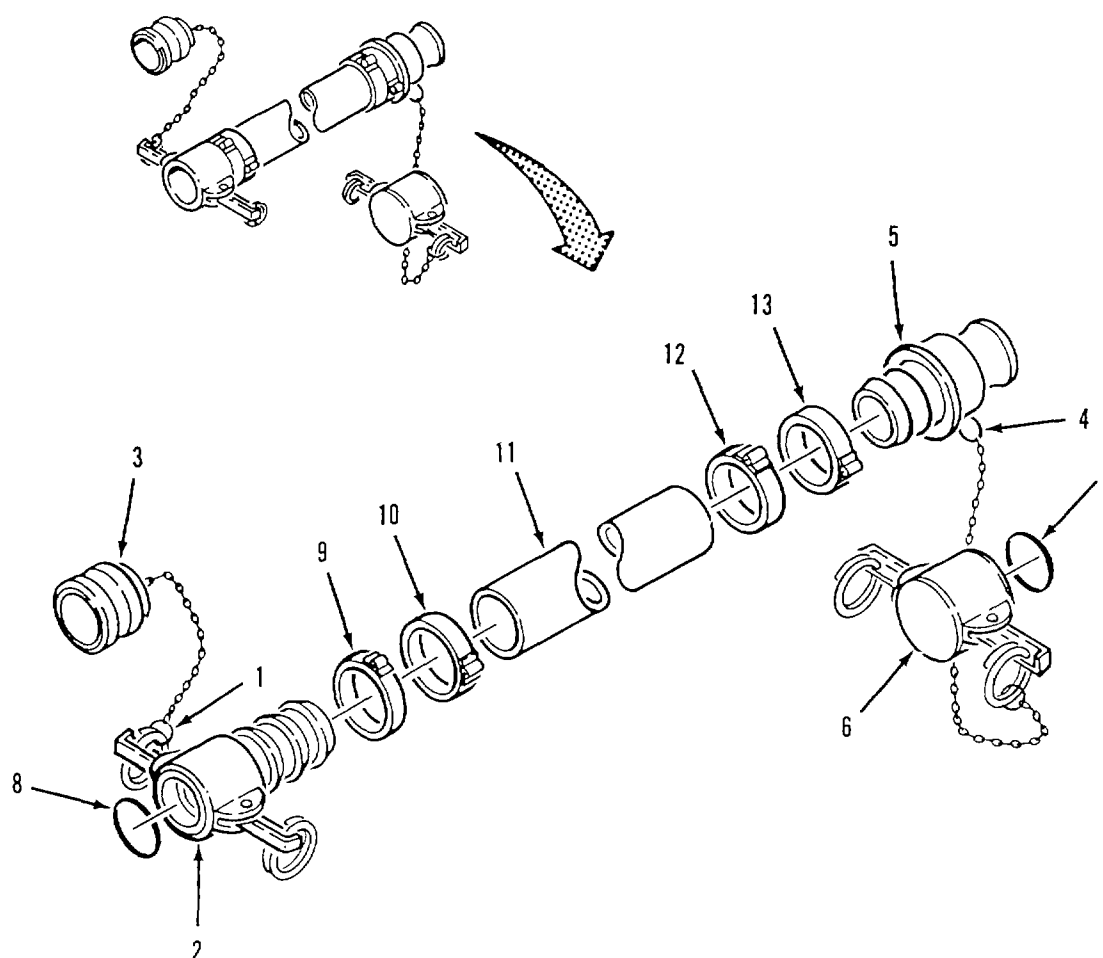

Figure 4-2. Discharge and Suction Hose Disassembly.
a. Disassembly. Refer to figure 4-2.
- (1) Disconnect split ring (1) from female coupling (2) and remove dust plug (3).
- (2) Disconnect split ring (4) from male coupling (5) and remove dust cap (6).
- (3) Remove gasket (7) from dust cap (6)
- (4) Remove gasket (8) from female coupling (2).
- (5) Cut strapping (clamps) (9 and 10) from hose (1). Pull female coupling (2) from hose.
- (6) Cut strapping (clamps) (12 and 13) from hose (11). Pull male coupling (5) from hose
c. Inspection. Refer to figure 4-2
(1) Inspect female coupling (2) and dust cap (6) for cracks, corrosion, and damaged locking arms.
(2) Inspect male coupling (5) and dust plug (3) for cracks and corrosion.
(3) Inspect hose (11) for cuts, tears, punctures, delamination.
- (1) Push male coupling (5, figure 4-2) and female coupling (2) into hose (11).